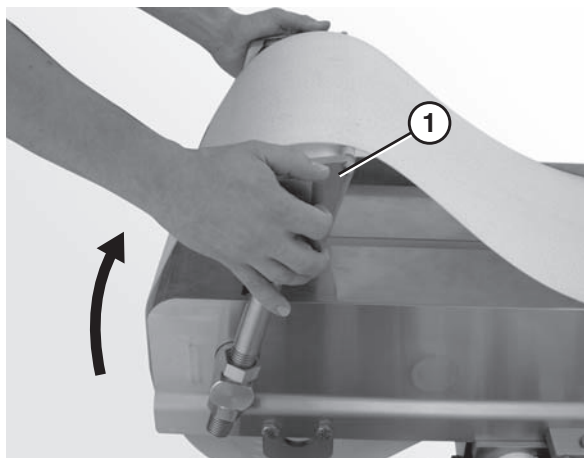

Figure 47
1. Place the idler tail (**Figure 47, item 1**) in the UP position.